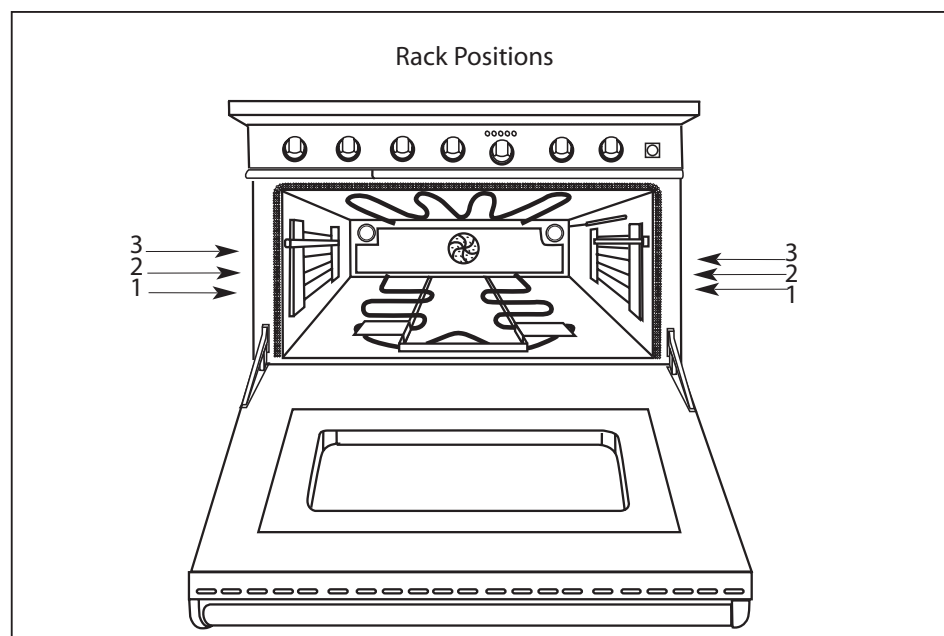

Fig. 1
**NOTE: If any are missing, contact DCS at (888) 281-5698. Please be prepared with your Model No., Serial No. and description of problem.**
2) Place the oven racks in the proper position before turning on the oven. For correct rack position check your recipe. The most frequently used position is number 2. The rack positions are numbered from the bottom as in the floors of a building. (Fig. 1)